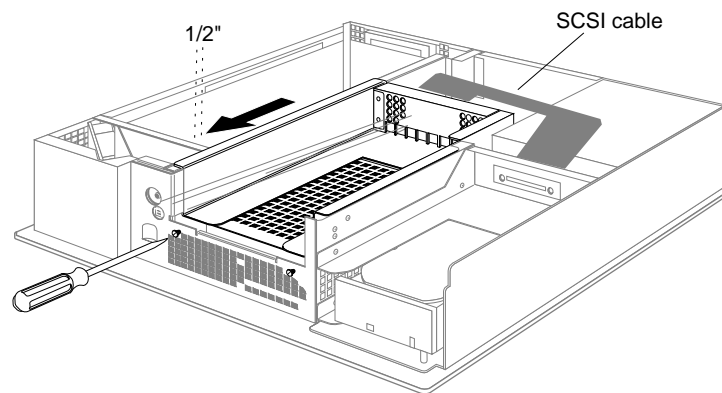

Figure 8-19 Replacing the 5-1/4" Drive Tray
9. Replace the 5-1/4" drive and tray, as shown in Figure 8-19.